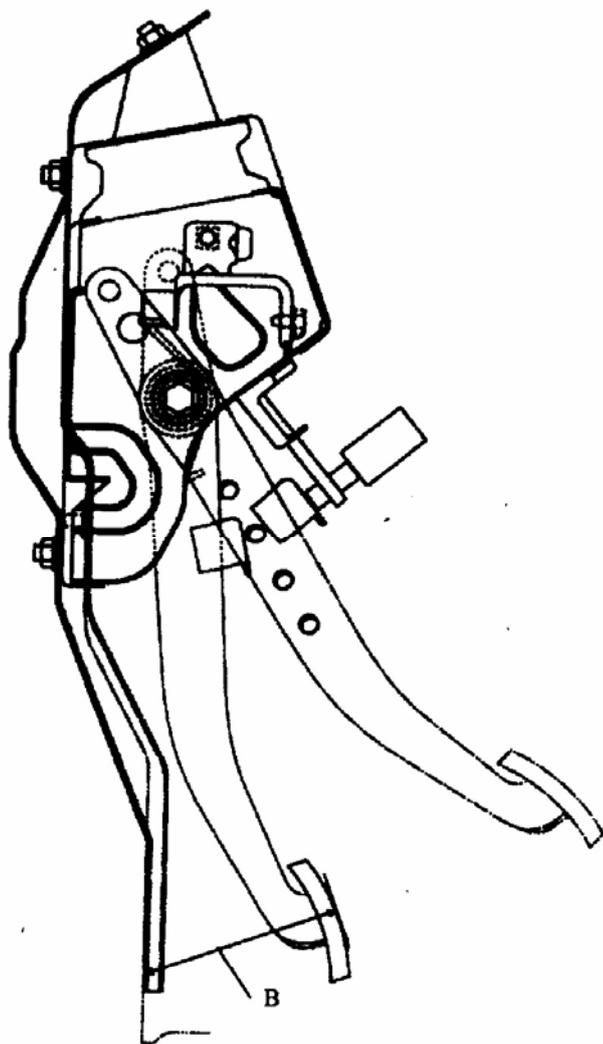

FIG.16-68
- With brake pedal depressed with approximately 30kgf load, measure pedal arm to wall clearance "B". It must not be less than 145mm.(FIG.16-68)